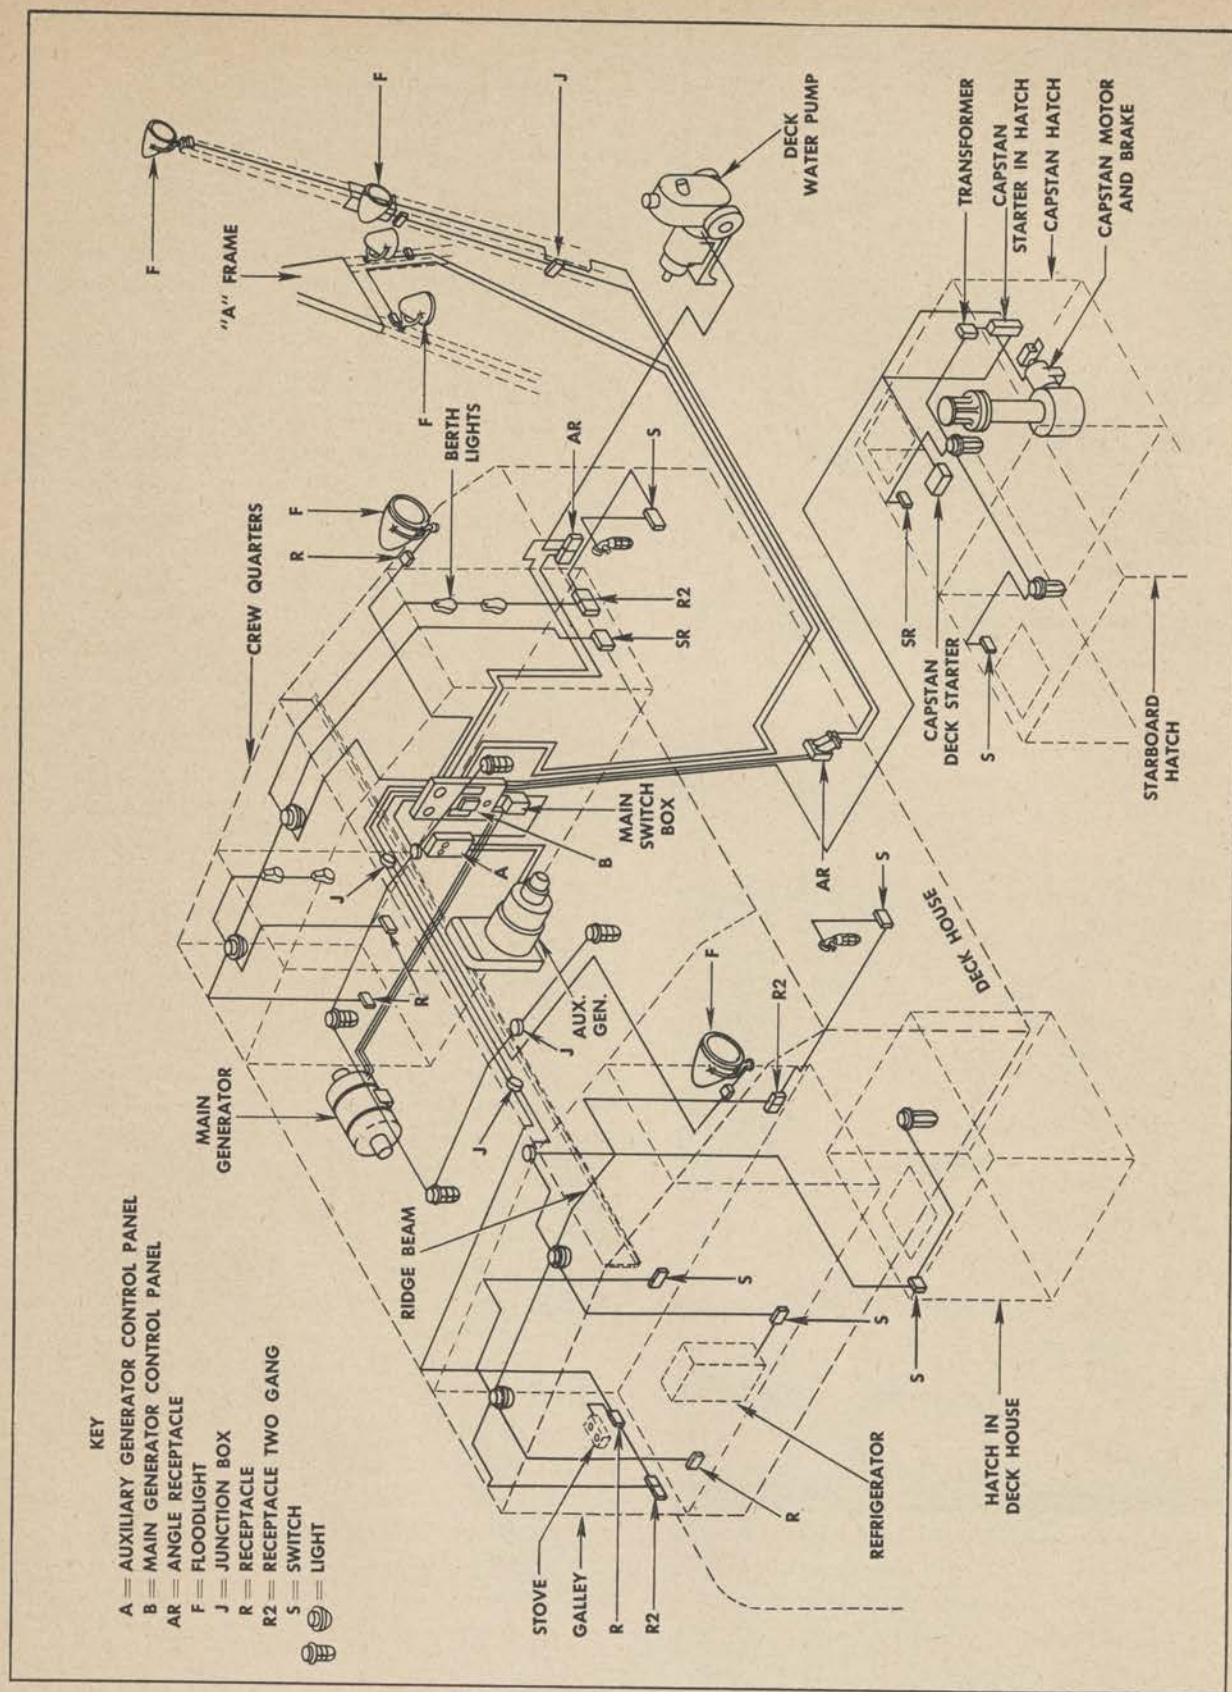

Figure 49. Electrical wiring system in barge.
t. CONNECTING ELECTRICAL SYSTEM (FIG. 49).
(1) *General.* Cables carrying the electrical current to the various accessories in the barge are received prefabricated and clamped in place in the individual subassemblies of the barge. It remains only to connect the cables where sections or subassemblies are joined in order to complete the electrical wiring for the barge. Receptacles are mounted on subassemblies and on ends of cable, prepared for mounting on their proper sections. Figure 49 illustrates a complete wiring diagram of the barge, with the cables and receptacles. The information given below describes the procedure for joining cables to their respective receptacles and electrical equipment.